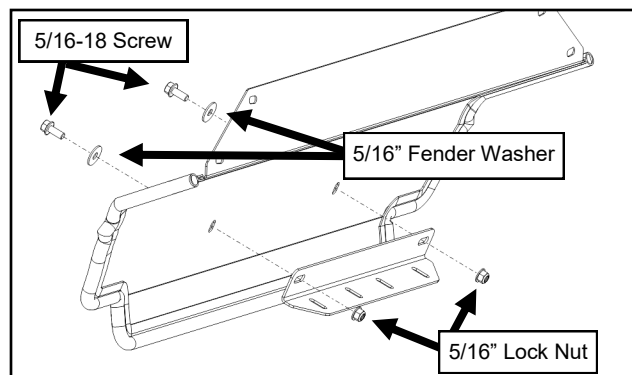

Fig. 5.1 (Rear Panel to Toolbox Bracket)
5.1 Locate the lower rear panel and rear panel to toolbox bracket. Keeping the slots centered, snug components together. See Figure 5.1.